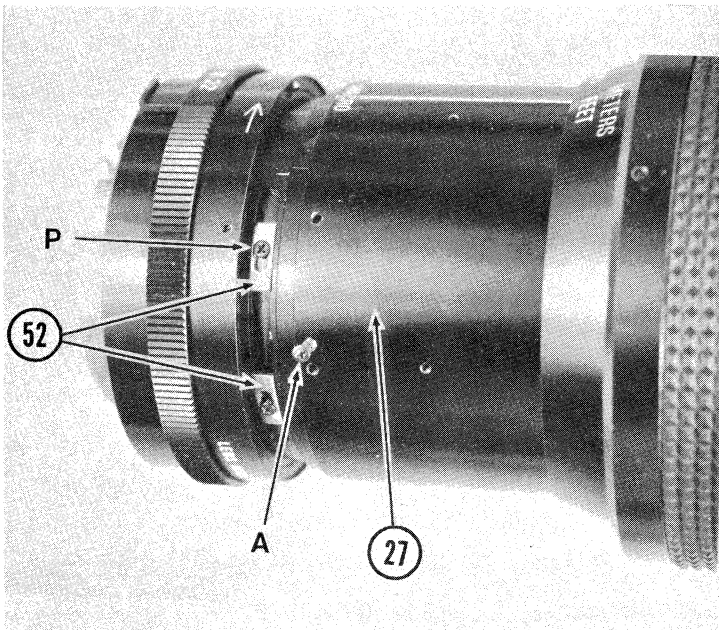

Fig. 54
- 7.1 Loosen two screws (P) just enough to allow Stop Plates (52) to move. Slide Stop Plates as close together as possible, as shown in Fig. 54)
- 7.4 Insert limiting screw (A) in Change Ring (27). Holding Change Ring against Detent Pressure, turn screw (A) fully down. (Fig. 54)